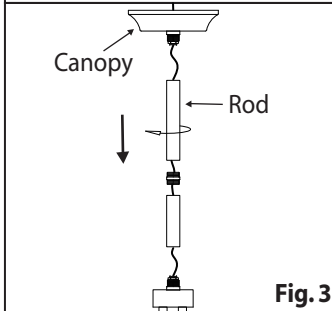

Fig. 3
3. Screw rod into the decorative stem. Screw firmly the canopy against rod. (Fig. 3)